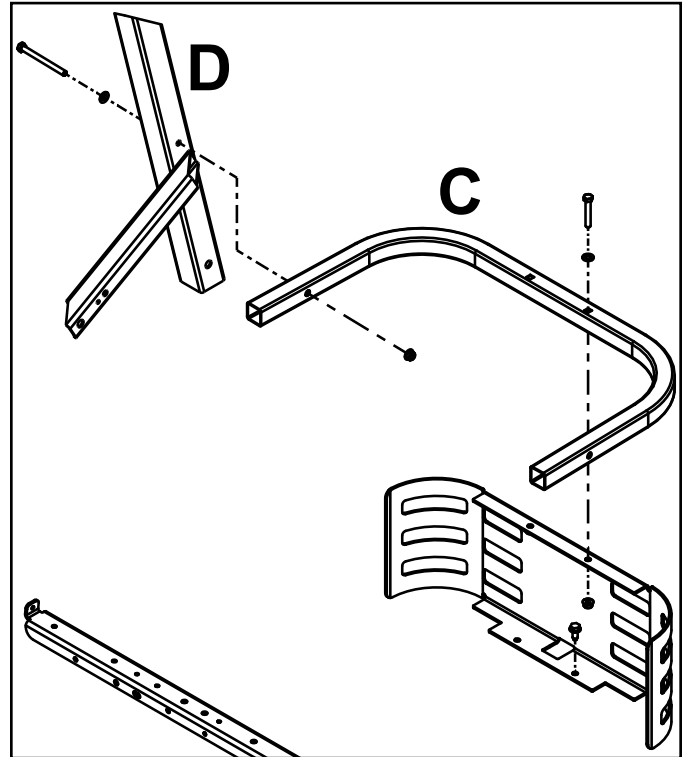

Fig. 015
4. Install and sufficiently tighten the (2) thread forming bolts that secure the rear guard tube (C) to the seat support (E). OR Install the bolts / nuts securing the rear engine guard to the ROPS frame (D). (Fig. 015)